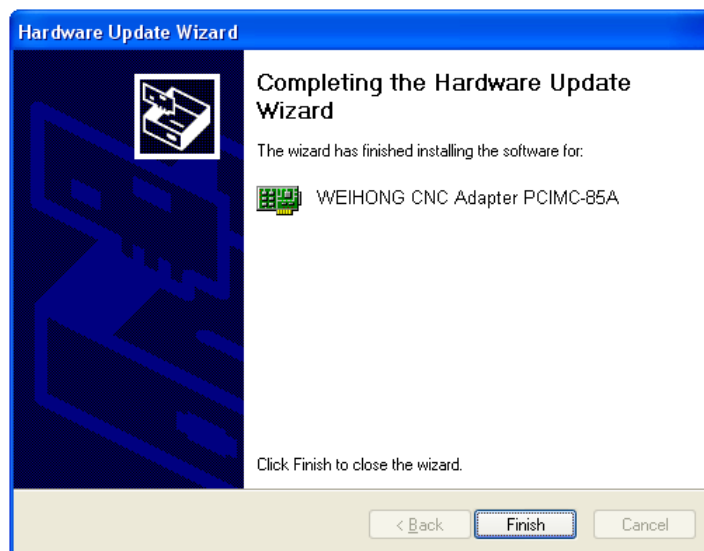

Fig. 1-15 Driver update completed
- 9) When the updating is finished, a dialog as shown in Fig. 1-15 will pop up. Click [Finish] to complete the update of the hardware driver. Double click the icon  on the desktop or click the icon on the menu "Start→All Programs" can launch the software successfully.